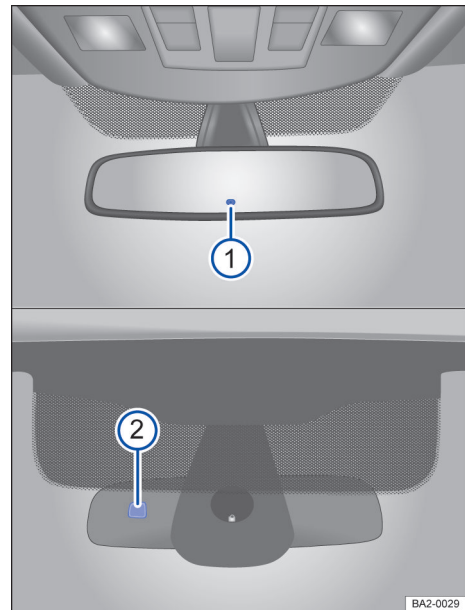

Fig. 72 On the windscreen: automatic anti-dazzle interior mirror
When the ignition is switched on, the sensors measure the incident light from the rear → Fig. 72 ① and from the front ②.